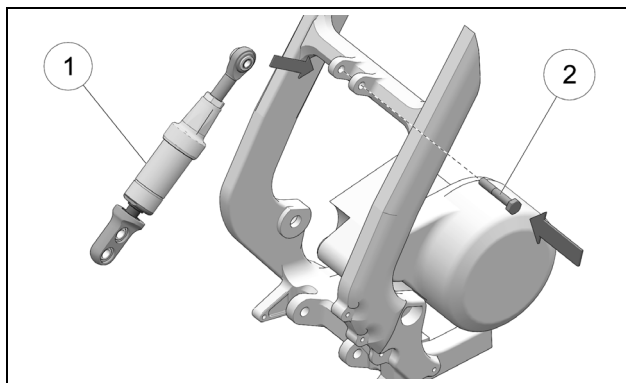

Figure 25
- Assemble Soft Strut (1) using the bike's shock absorber assembly bolt (2). See Figure 25
- Tighten shock assembly bolt (2) to manufacturer's recommended torque specification. Figure 25.